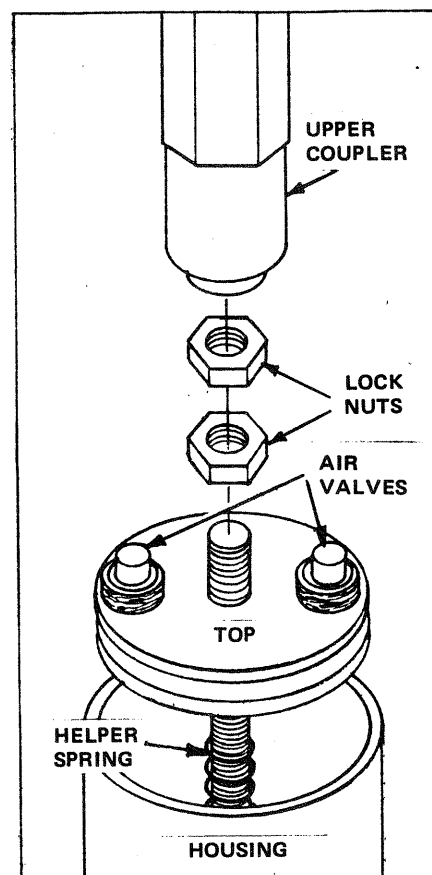

FIGURE 9-21 Dashpot disassembly.
- I. If the Solenoid is operating correctly, proceed to Point P on page 134. If you were unable to increase the thrust enough, replacement of the Helper Spring may solve the trouble. To replace the Helper Spring, remove the Solenoid from the piano (see the CAUTION below), disassemble the Dashpot as shown in FIGURE 9-21, remove the Helper Spring, and replace it with the stronger Spring (PN 100-02B149-3) from the parts kit. Reassemble the Dashpot and reinstall the Solenoid assembly in the piano. Proceed to Point J.
- M. If you cannot adjust the Pull-in Control to the point where the Damper Lifter Rod does not slam and the Solenoid operates correctly, readjust the Pull-in Control to the point where the Solenoid operates correctly, stop the tape, and remove the solenoid from the piano, then disassemble the Dashpot (see FIGURE 9-21 on page 132) and remove the Helper Spring. See the CAUTION below, then proceed to Point N.